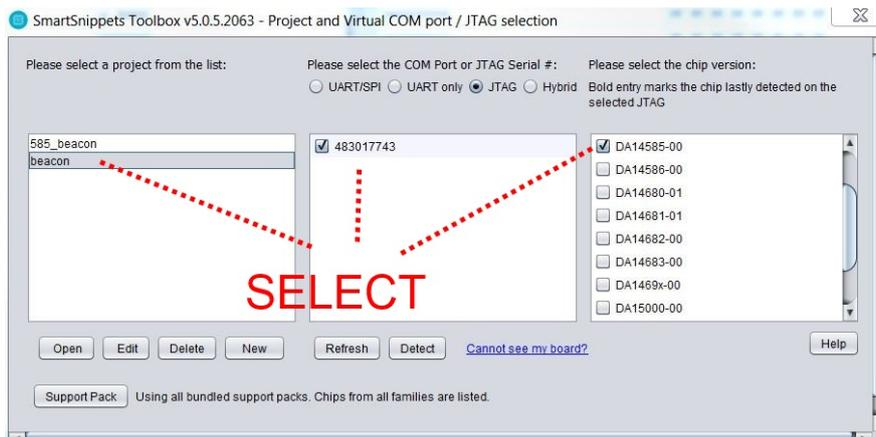

Figure 92: Initial Window to Choose Device and Connection Type
1. Open SmartSnippets Studio > SmartSnippets Toolbox (Figure 92). Select **JTAG** (above), JTAG adapter (middle panel), a project name (left panel), and chip version (DA14585, right panel). If SmartSnippets Toolbox is being run for the first time, first define a new project by the **New** button.